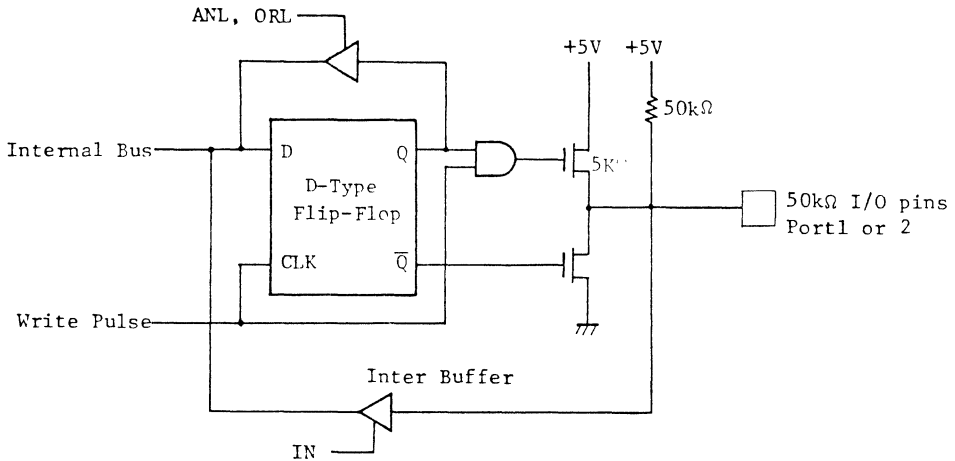

Fig.1 Input/Output Circuit of Port 1, Port 2
(3) Input/Output Ports
- . All lines of Ports 1 and 2 are called quasi-bidirectional because of a special output circuit structure (illustrated in Figure 1). Each line is continuously pulled to a +5V level through a high impedance resistive device (50kΩ) which is sufficient to provide the source current for a TTL high level yet can be pulled low by a standard TTL gate thus allowing the same pin to be used for both input and output. In order to speed up the "0" to "1" transition a low impedance device (5kΩ) is switched in momentarily whenever a "1" is written to line. When a "0" is written to line a low impedance device overcomes the pullup and provides TTL current sinking capability.